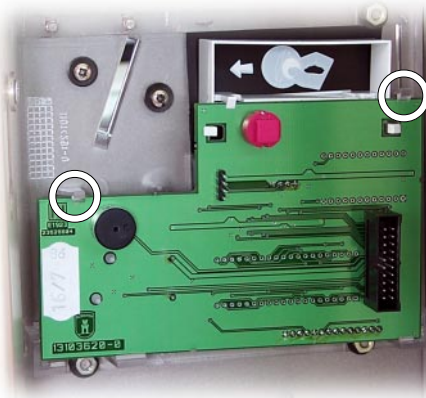

Figure 13
- 2.- Remove the Display Card which is held by plastic clips (see **figure 13**), to do so, it will be necessary to extract the coin mechanism as much as possible.